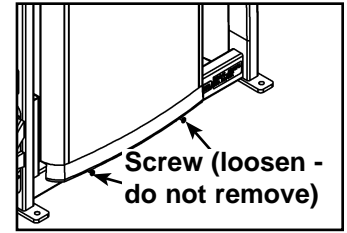

Figure 6
G. Loosen bottom two screws shown in Figure 6.